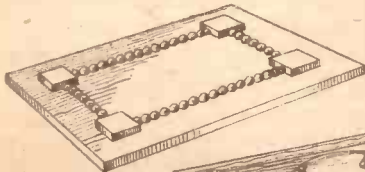
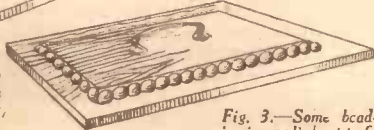

Fig. 2.—If the beading does not measure to the corner properly, put in little blocks and glue the beading close to it.
Fig. 3.—Some beading is supplied cut to fit into corner angles. It is illustrated in position here on a box lid.
round, and (B) where it is cut across at an angle of 45 degrees to form a continuous pattern. Another plan is given at Fig. 2, where little blocks are put in at the corners and the beading glued up to them. This is often helpful if the beading must be in a certain position, but does not fit in with an even number of balls or patterns. The manner in which quarter-round beading is used is shown at Fig. 3. It comes in to help build up a base, or in the angle of a lid as shown. Also at corners which would otherwise be ugly or open (see Fig. 4).